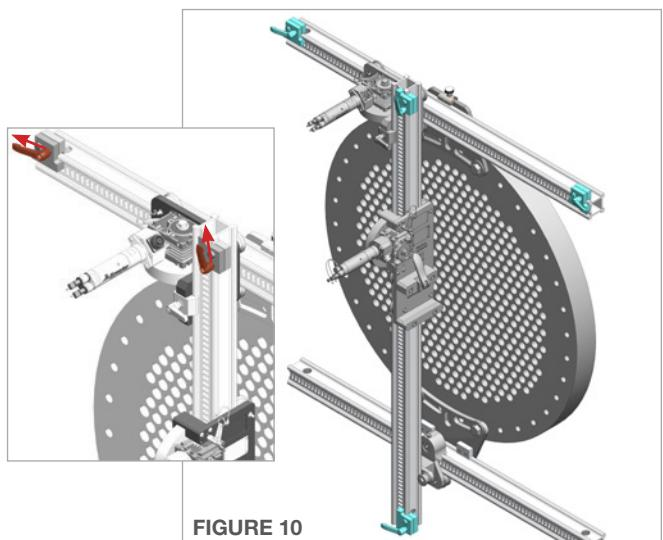

FIGURE 10
- Loosen the handles on the four **Rail Stops** and slide one onto both ends of the top horizontal rail and both ends of the vertical rail. Rotate all the handles so they face away from Horizontal and Vertical Drives (as shown) and ensure that they are securely fastened. (**Figure 10**)